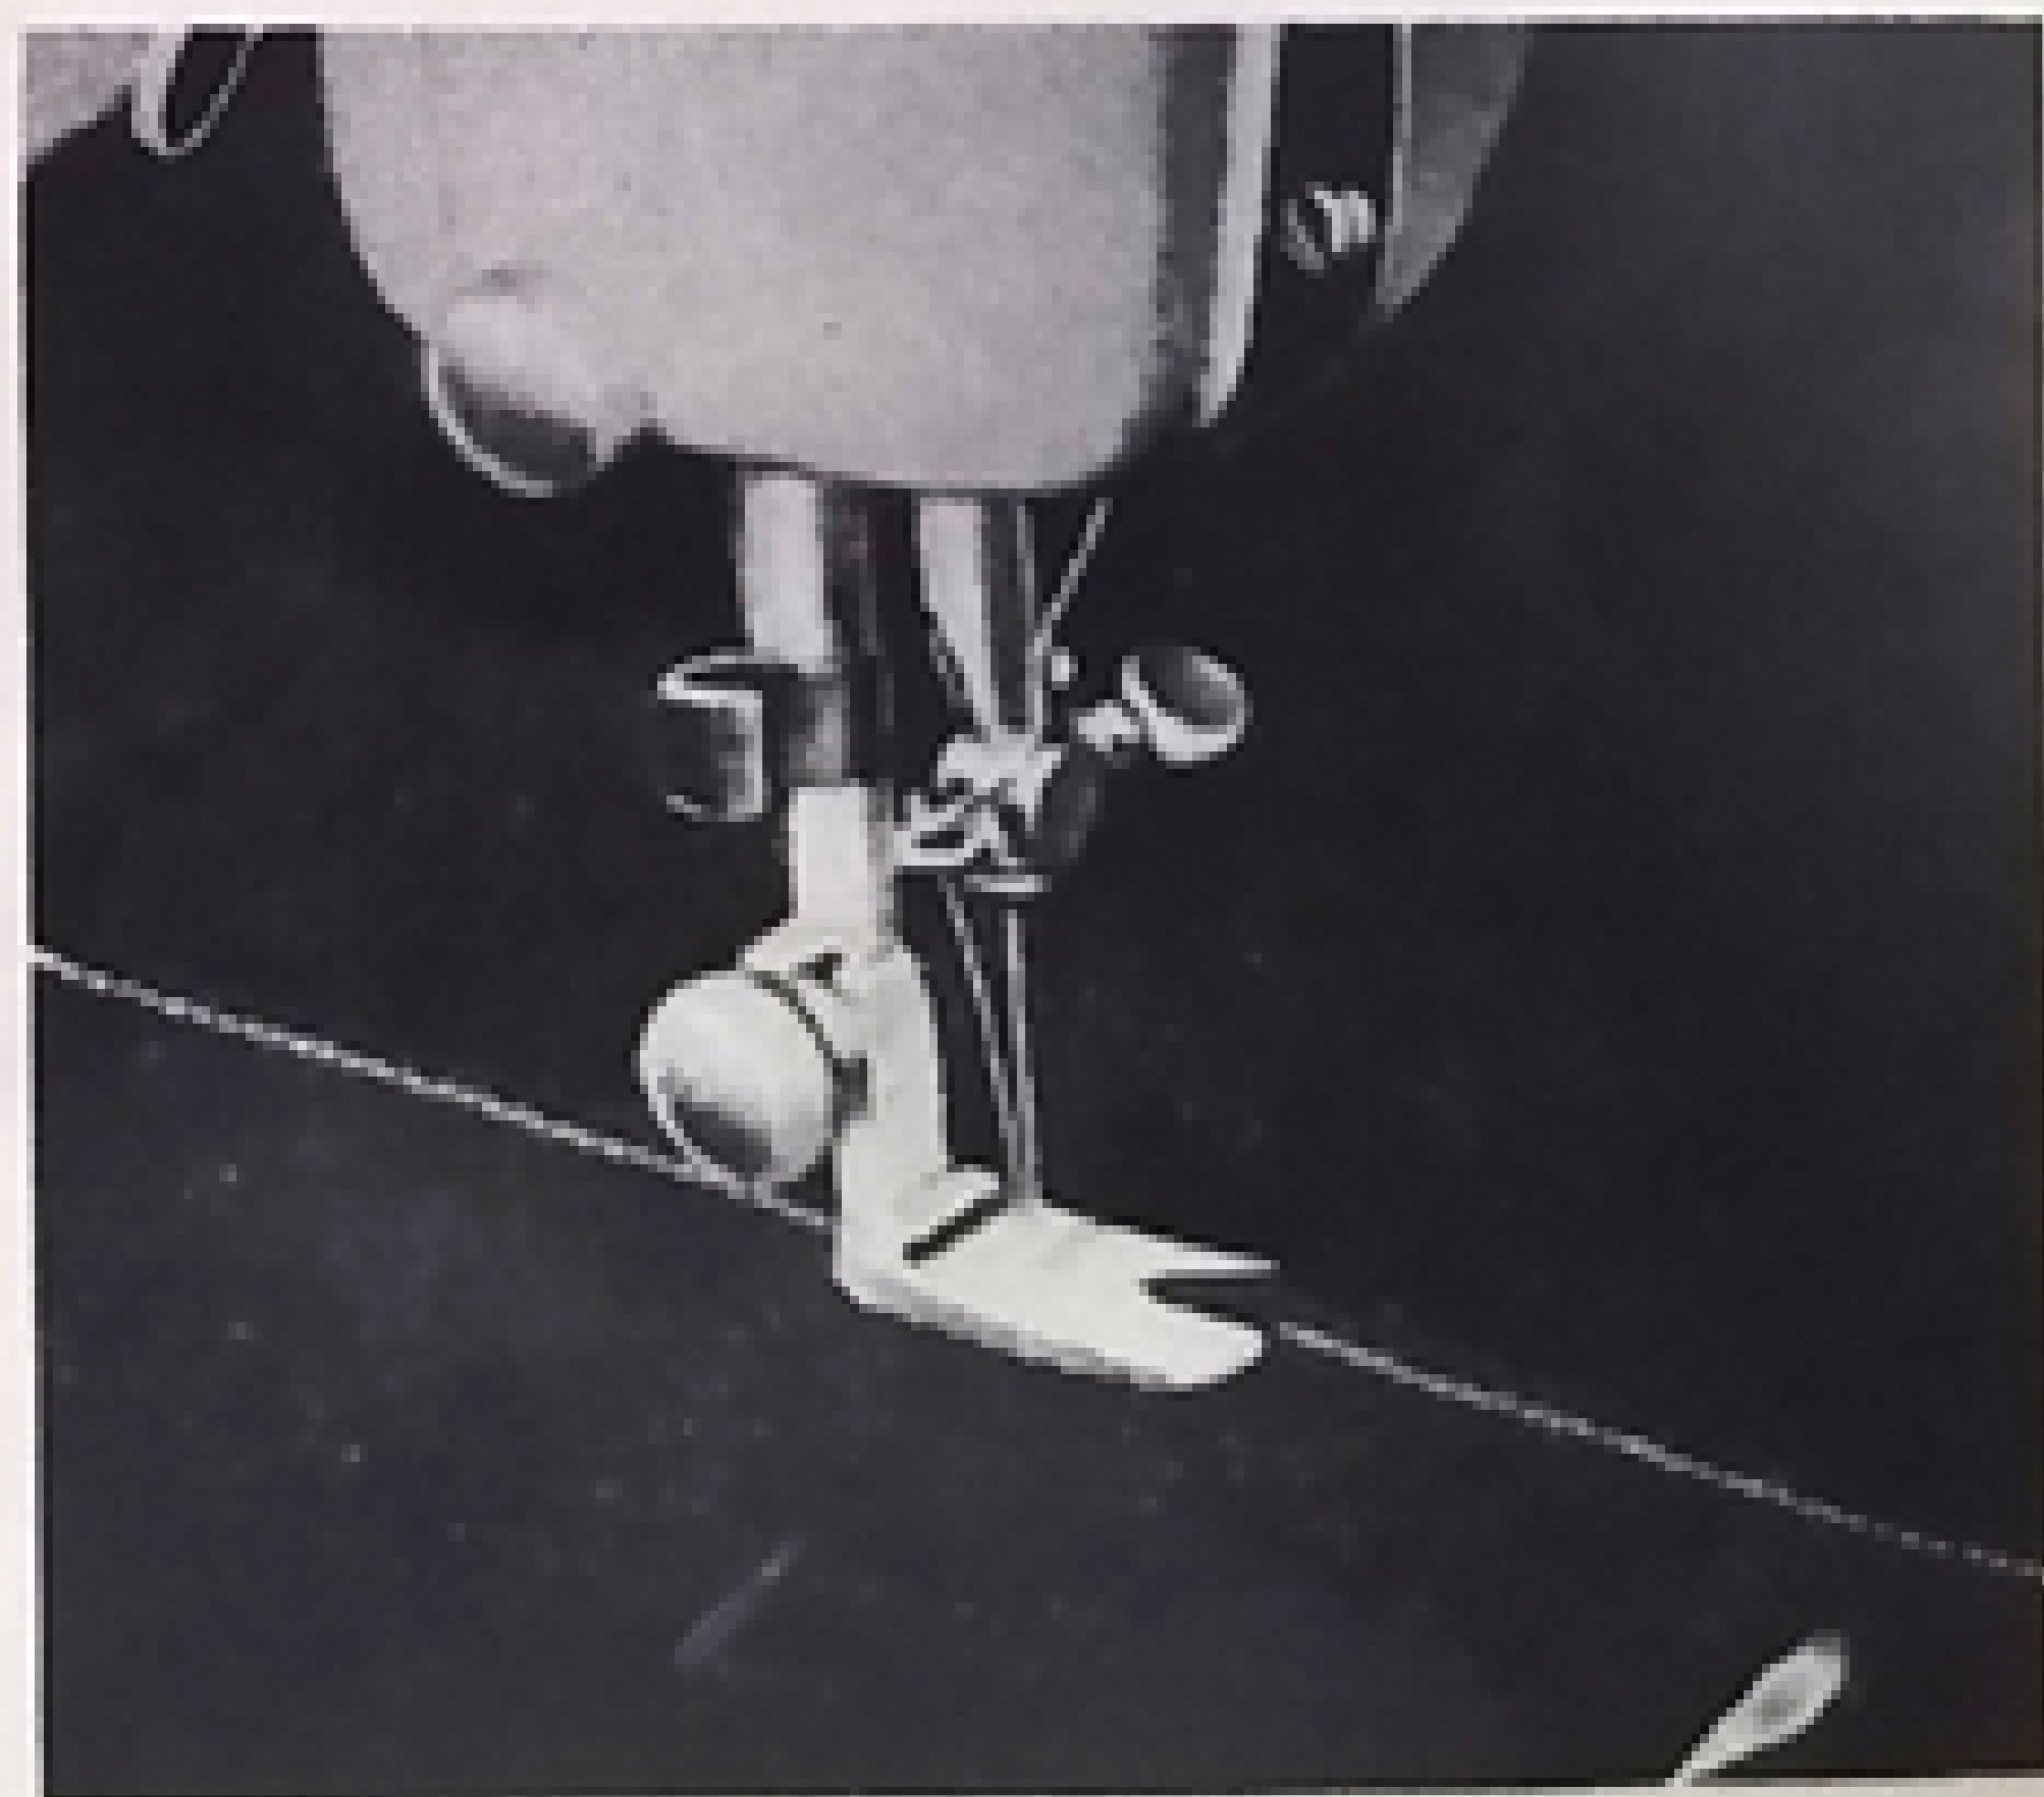

Fig. 34
8. Place the material under the foot using the long toe as a guide. See Fig. 34.
9. Flatten out material keeping the right sides down the edge of the fabric upright as shown in Fig. 34.